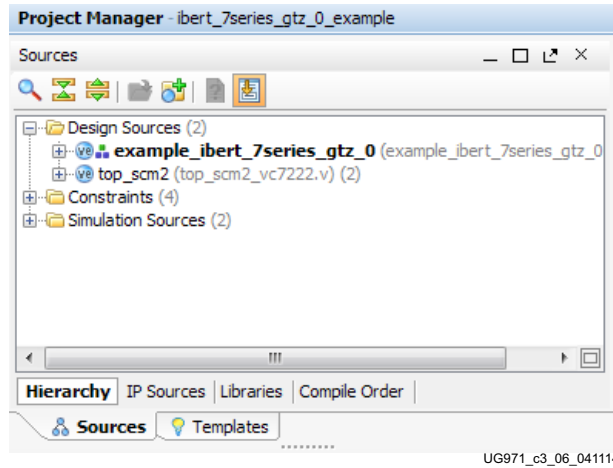

Figure 3-6: Sources after Running add_scm2.tcl
5. In the new window select **Tools > Run Tcl Script**. In the Run Script window, navigate to **add_scm2.tcl** in the extracted files and press **OK**. The SuperClock-2 Module Design Sources and Constraints are added to the example design (Figure 3-6).